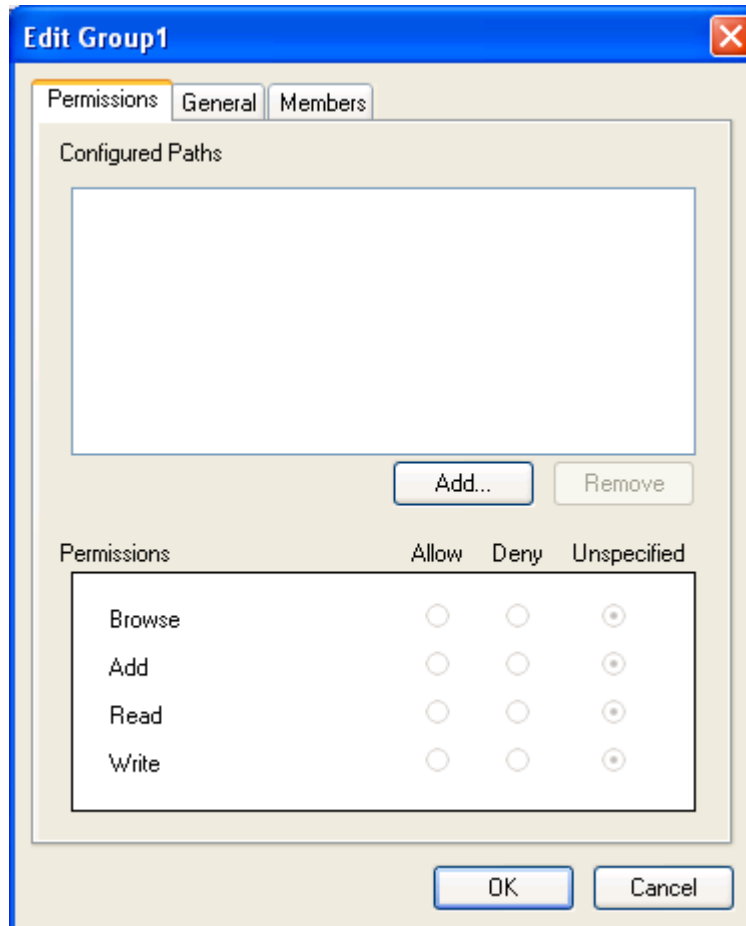

Figure 62 - Edit <Groupname> Window (Permissions Tab)
6. The **Edit <Groupname>** window (Figure 62) appears (for NT Groups, there is only the **Permissions** tab). Follow the instructions in the **Edit Group** section for adding permissions.
6. The **Edit <Groupname>** window (Figure 62) appears. Follow the instructions in the **Edit Group** section for adding permissions.
- The **Edit <Groupname>** window (Figure 62) appears.